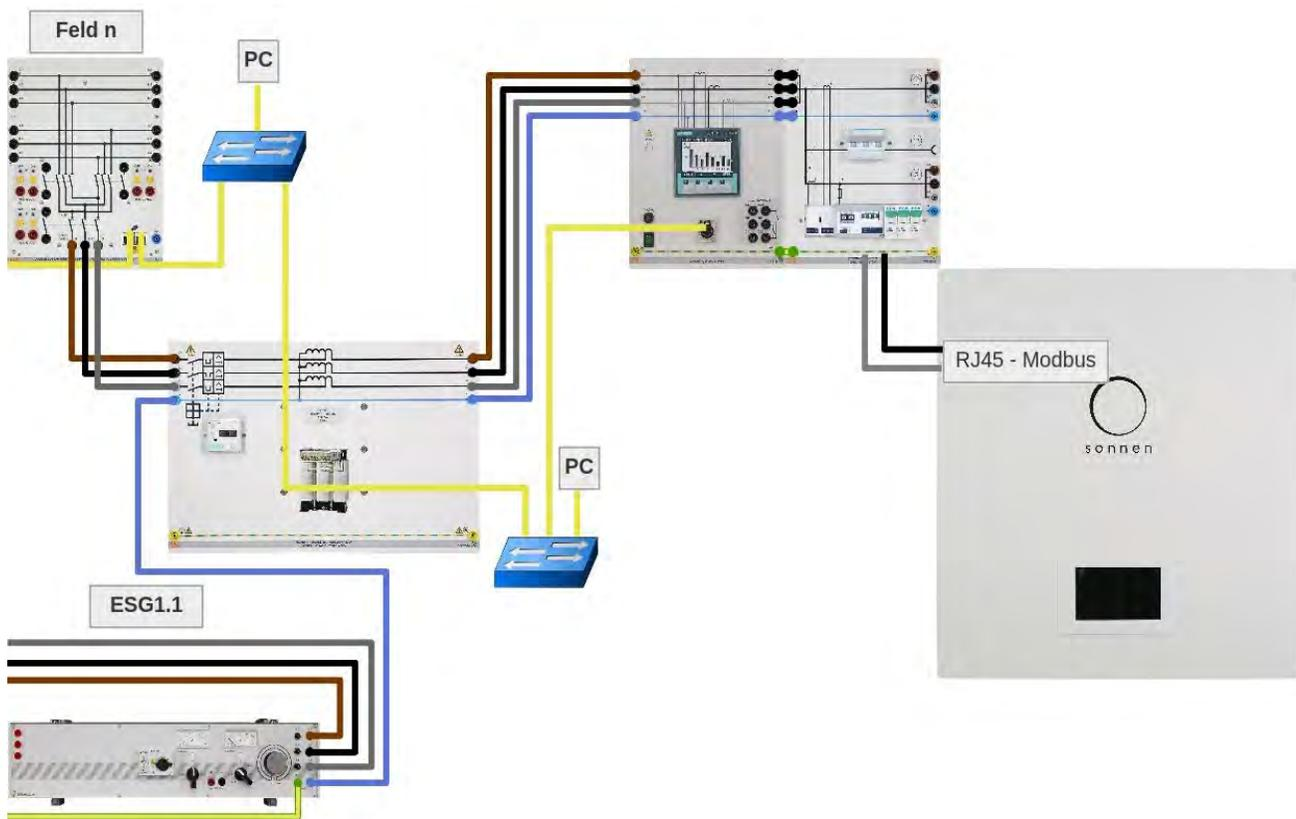
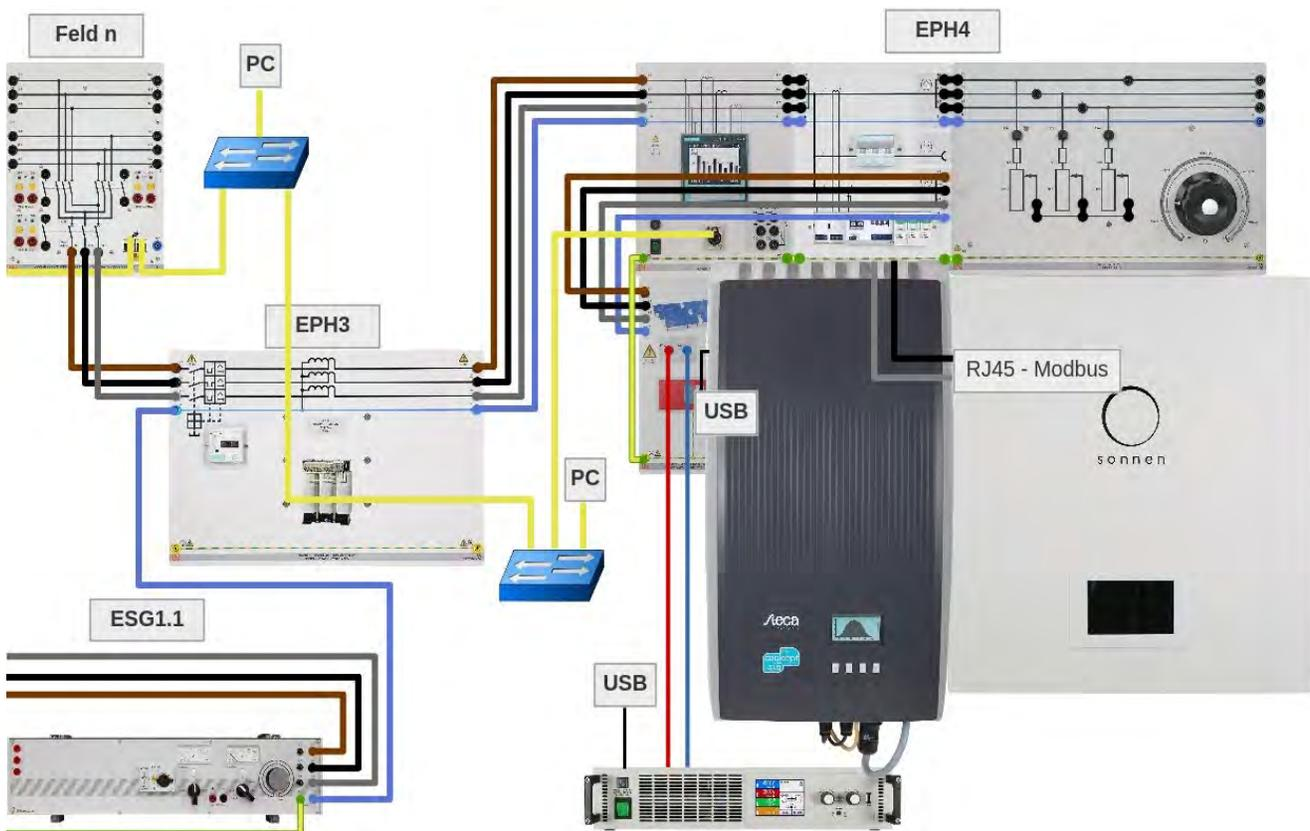

Figure 28:
Figure 29:
If an experimental setup as shown in Figure 28 is used, direct access via Ethernet with SCADA makes sense. Experimental set-ups similar to figure 29 require a SCADA Advanced Remote Control Server/Client configuration. In this case, direct access to the storage system can no longer be useful.
- ❖ Battery Storage Devices Extension (Figure 28).
- ❖ Decentralized Battery Storage System with Photovoltaic System in a Private Household (Figure 29)